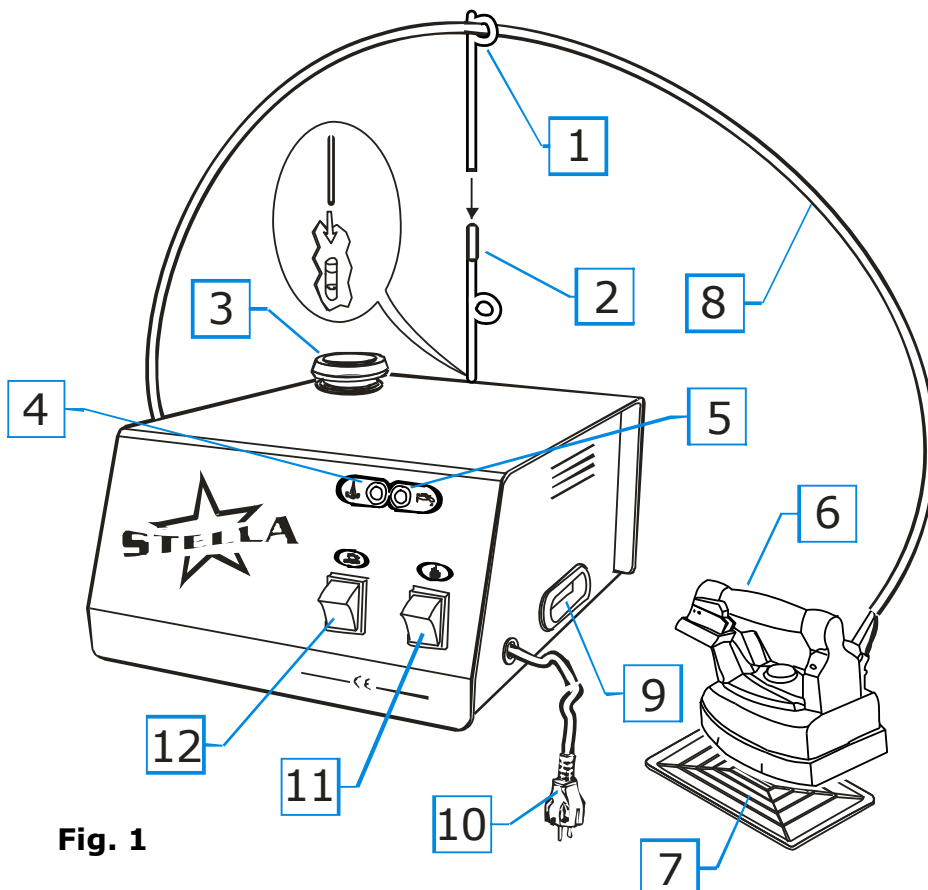
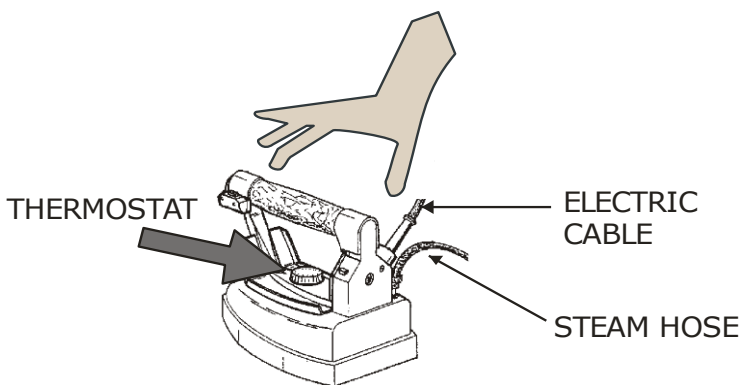
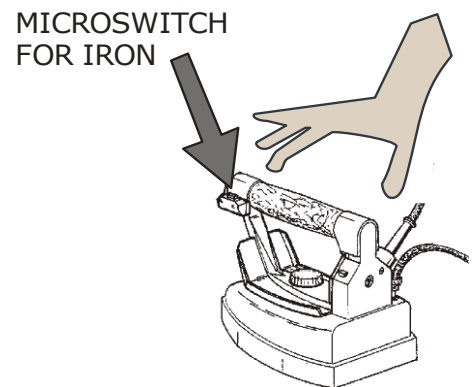

Fig. 1
Fig. 3
Fig. 4
For transport and handling size STELLA only by the specific handles. Never pull the electric cables (fig. 1).
2. Remove STELLA from the box, assemble the two pieces of the cable support and insert it deep into the special support holder (fig. 1) placed on the back side of the generator.
4. Place the iron on the rubber iron rest supplied with the machine (fig. 1).
3. Switch on the boiler (fig. 1 - 11), the iron (fig. 1 - 12) and position the iron thermostat (fig. 3) on "cotton".
4. Wait for the boiler lamp to switch off (fig. 1 - 4) . At this point, seize the iron by the cork handle and press the micro-switch of the iron (fig. 4) 4 or 5 times, so that steam comes out. It is important to make sure that the steam is saturated (by pressing the micro-switch with the iron pointed towards the floor). Now everything is ready for ironing. During ironing operation, the boiler lamp switches on and off signalling that the machine is working properly (fig. 1 - 4).
1. Run the iron on the garments, pressing the micro-switch of the iron (fig. 4) at intervals so that steam comes out.
3. During ironing, always put the iron on its rubber rest (fig. 1).
4. For dry ironing it is possible to adjust the thermostat (fig. 3) on various positions according to the type of fabric (check garment label). For steam ironing set the thermostat on "cotton" or "linen" (**N.B.:** the thermostat of TULIPANO irons must be set between "wool" and "cotton").
The red pilot light (fig. 1 – 5) and the acoustic signal (buzzer) are activated in the following case:
3. the steam hose and the iron cable once they seem damaged (fig. 3).
6. iron overheating or loss of water from the iron (fig. 3);
7. washing or cleaning the iron using water (fig. 3);